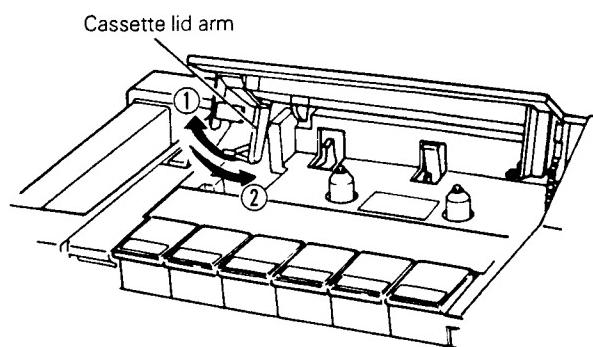

Fig. 2
- (2) Passing the boss of the cassette lid arm through the notch in the direction indicated with arrow ① as shown in Fig. 2.
- Passing the cassette lid arm in the notch in the direction indicated with arrow ② as shown in Fig. 2.